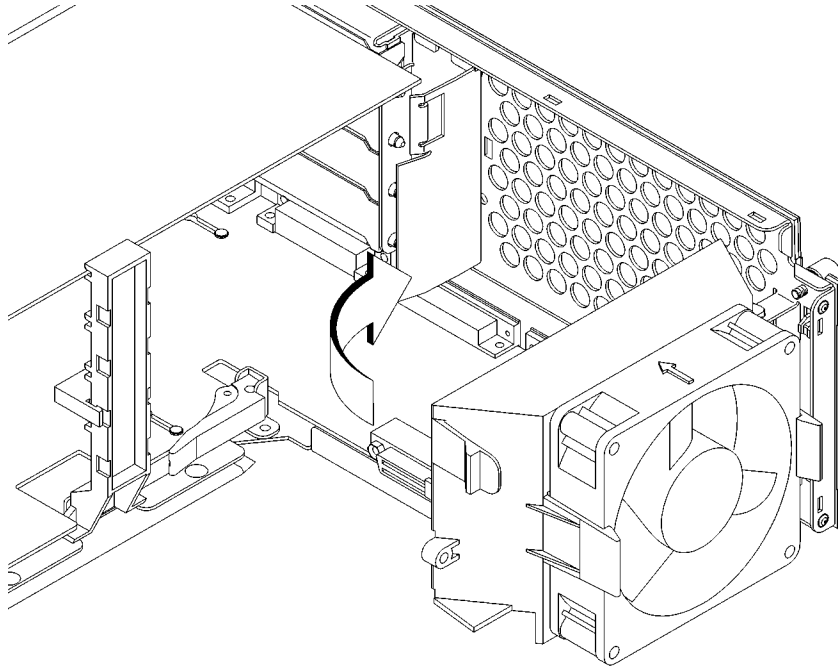

Figure 55
- 11 Rotate the fan back into place, as shown in Figure 55. Push it into the rear panel firmly until the clip snaps into place.